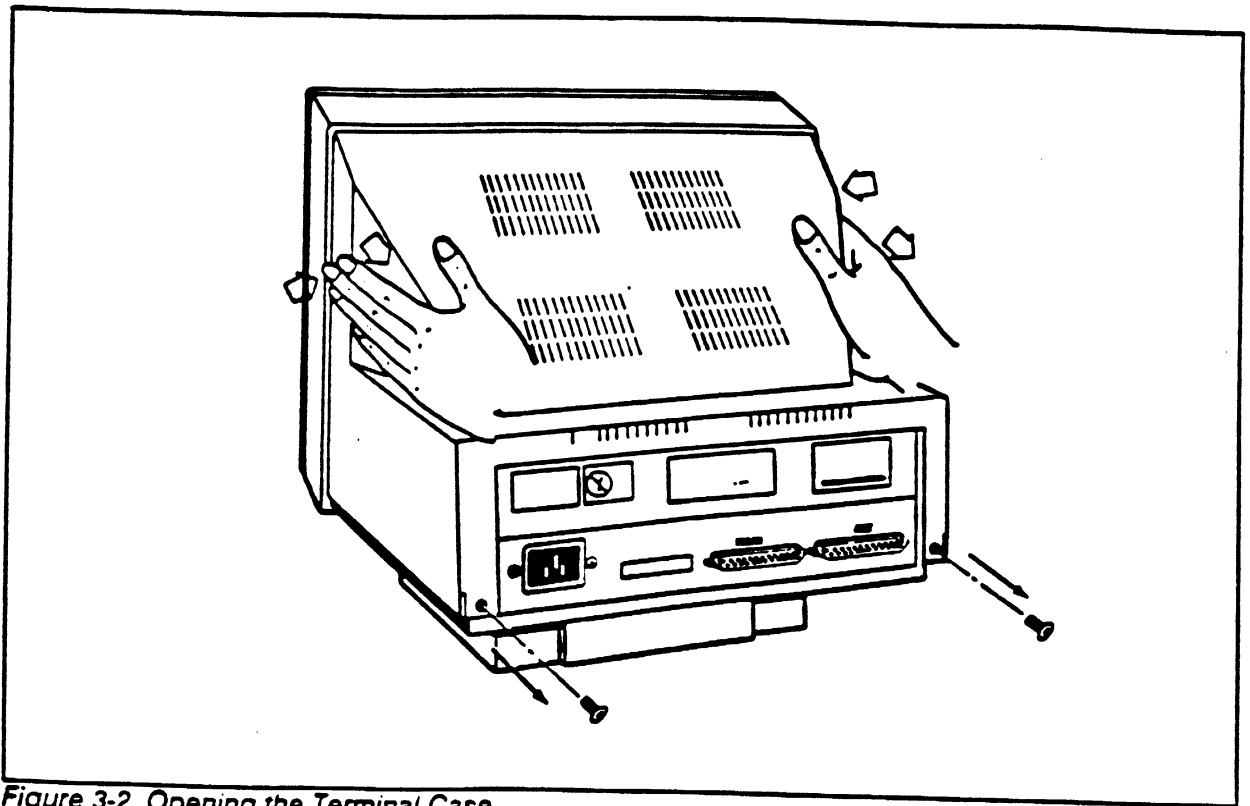

Figure 3-2. Opening the Terminal Case
1. Remove all AC power cords and communications cables from rear of terminal and remove terminal case per **Figure 3-2**.
Without touching any of the metal surfaces, pick up screwdriver by its insulated handle and slip the tip of screwdriver under the plastic cap that covers the anode, shown in Figure 3-2. Then touch the metal frame of CRT with the shaft of the screwdriver. (You may need second screwdriver to reach the CRT frame from the anode.)